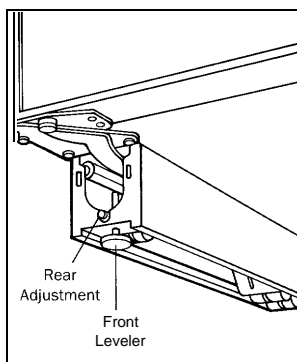

Figure15
4. Using the front and rear levelers, the unit must be raised until it contacts the wood block. See Figure 15.
To reduce possibility of cabinet tipping forward, front levelers must be in contact with floor. See Figure 15.
With the unit positioned properly you should level the unit by turning the front leveling legs counterclockwise to raise or clockwise to lower. The rear levelers (rollers) are adjusted from the front of the base by turning the $\frac{5}{16}$ " hex bolt clockwise to raise and counterclockwise to lower the cabinet. See Figure 15.